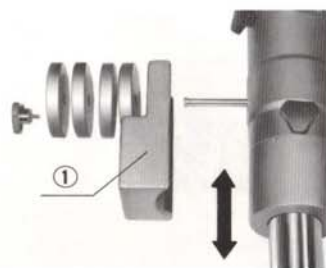

Fig. 10
- 1) Move the universal arm up and down by hand. If it feels light when lifting the arm, attach a counterweight. If it feels light when lowering the arm, remove a counterweight. (Fig. 10)